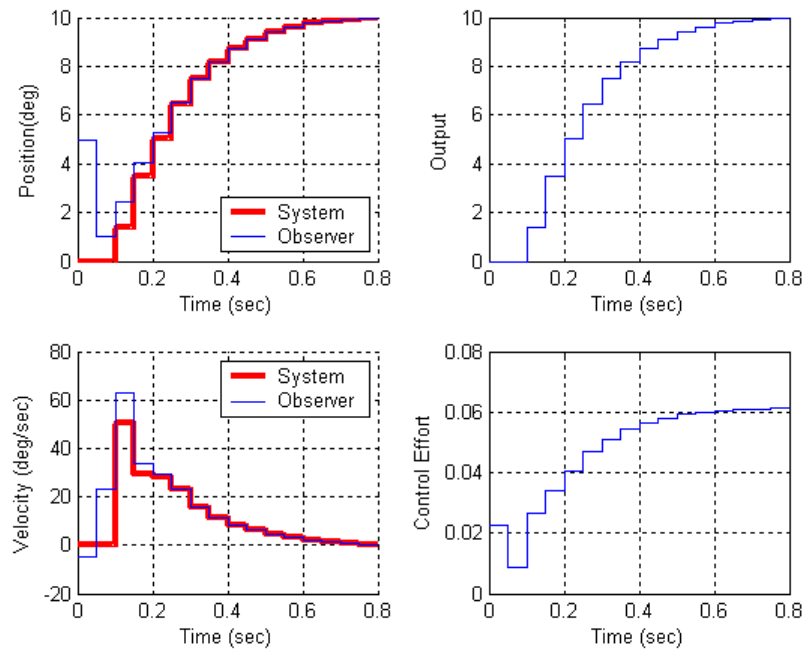

Figure 5: Results for problem 3b.
b) Place all the state feedback poles at 0.4 and all of the observer poles at 0.2. The output of the system is the position of the first disk and this is also the output available to the observer ( $C = C_y$  in this case). The disk is initially estimated to be at 5 degrees, the velocity is initially estimated to be -5 degrees/sec, and the delayed control signal is estimated to be 1 degree. The true system is initially at rest (all initial states are zero) For a 10 degree step input you should get the graph shown in Figure 5. Turn in your plot.